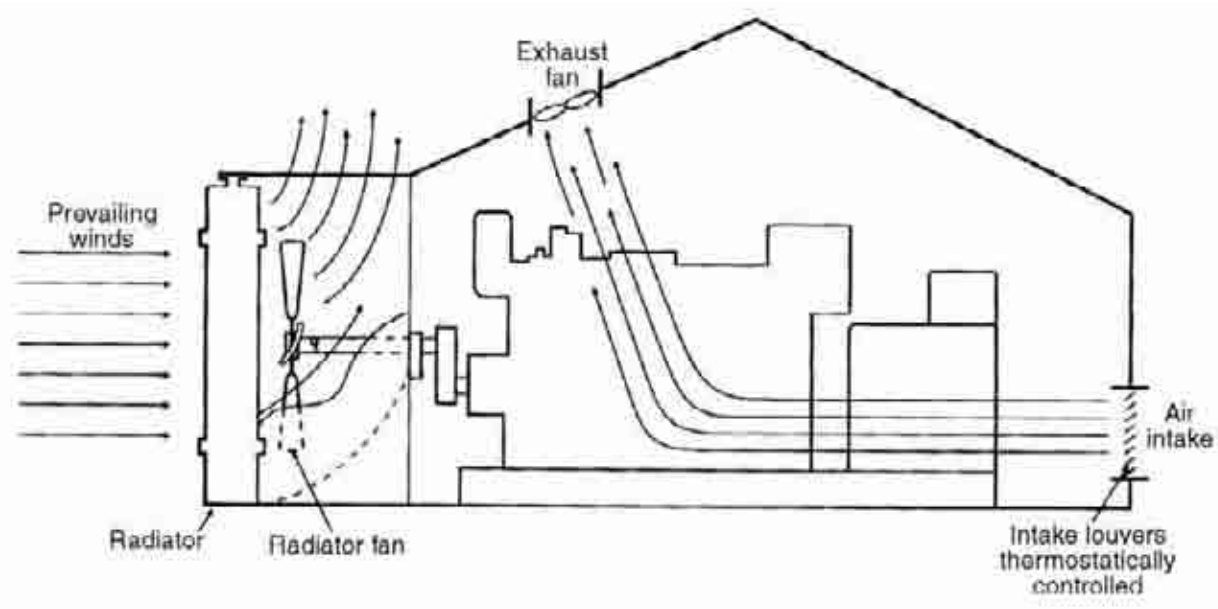

Figure 8. Engine driven fan arrangement.
- Remote mounted and specially ducted engine-mounted radiators do not require engine room air for cooling (see Figure 8). One advantage of such a system is that the air used to cool the radiator is not pre-heated by the engine, thus increasing the ambient capability (or reducing the size) of the unit. The disadvantage is that motor-driven fans must be installed to provide ventilation for the engine, generator and other equipment which increases the overall cost of the system. This system is suitable for continuous duty applications.